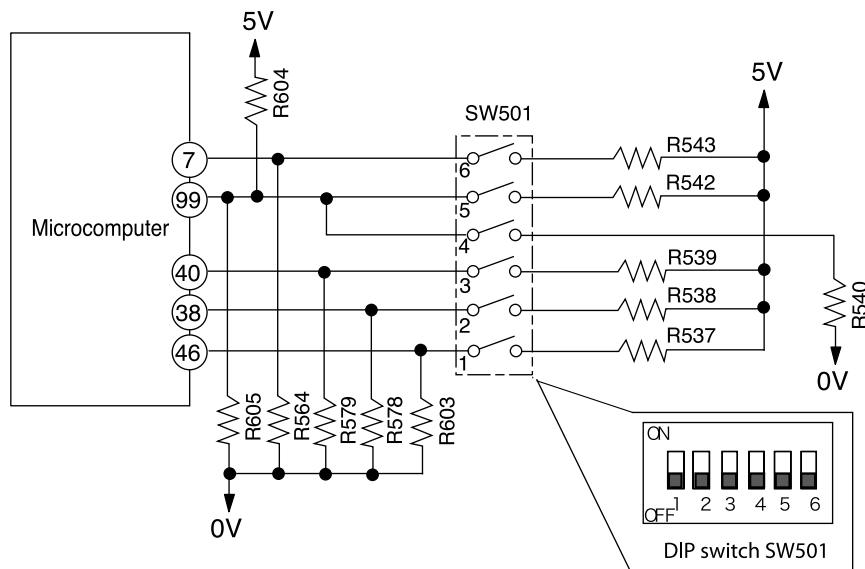

Fig. 7-1 Dip switch Circuit
- Fig. 7-1 shows the dip switch circuit; the table shown in Fig. 7-2 are function and setting position from ①–⑥ of the switch no.